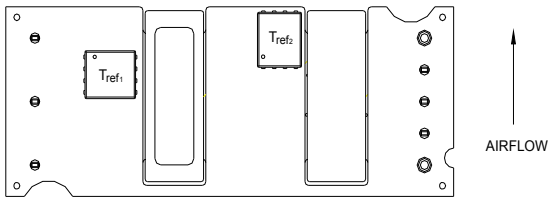
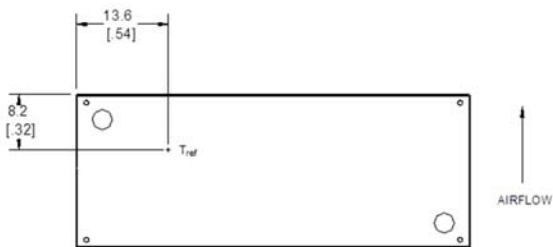

Figure 13. T_{ref} Temperature Measurement Locations for Open Frame Module.
Figure 14. T_{ref} Temperature Measurement Location for Module with Heatplate.
To provide protection under certain fault conditions, the unit is equipped with a thermal shutdown circuit. The unit will shutdown if the thermal reference point, T_{ref} , exceeds 135° C (Figure 13, typical or 120° C (Figure 14, typical)), but the thermal shutdown is not intended as a guarantee that the unit will survive temperatures beyond its rating. The module will automatically restart upon cool-down to a safe temperature.
The thermal reference points, T_{ref1} and T_{ref2} , used in the specifications for open frame modules are shown in Figure 13. For reliable operation these temperatures should not exceed 122° and 123°C respectively.
The thermal reference point, T_{ref} , used in the specifications for modules with heatplate is shown in Figure 14. For reliable operation this temperature should not exceed 100 °C.